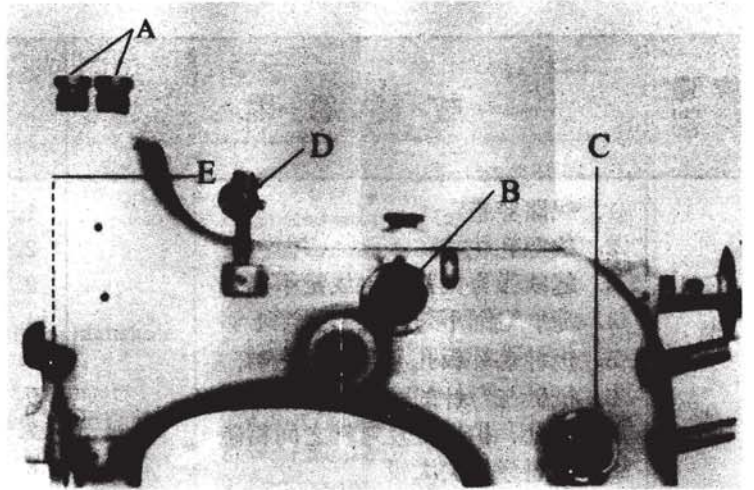

图 10 Fig.10
压脚压力的大小，取决于缝料的厚度，缝薄送料时顺减少压力；反之，则增大压力。当缝料推送顺畅，针迹均匀时切勿再增大压力，以缓减机件磨损。调节压力时旋进两只调压螺套（图10，A）可增大压力，旋出则减少压力。
缝线张力由夹线器(图10, B、C)调节, 通常面线(B)张力要比底线(C)的张力大。旋进夹线器螺母(B、C)使张力增大, 旋出则减少。
Thread tension is adjusted by thread tension assembly(B. C. Fig. 10). Tension of upper thread(B) is generally stronger. Than that of lower thread (C). Turn thread tensioner nut (B. C) in to increase the tension, turn it out to decrease the tension. If the stitch is still not good, should adjust the height of thread adjusting bar (D). The height of the thread adjusting bar (D) is at the same level with the thread eye of the needle bar connection at its highest position.